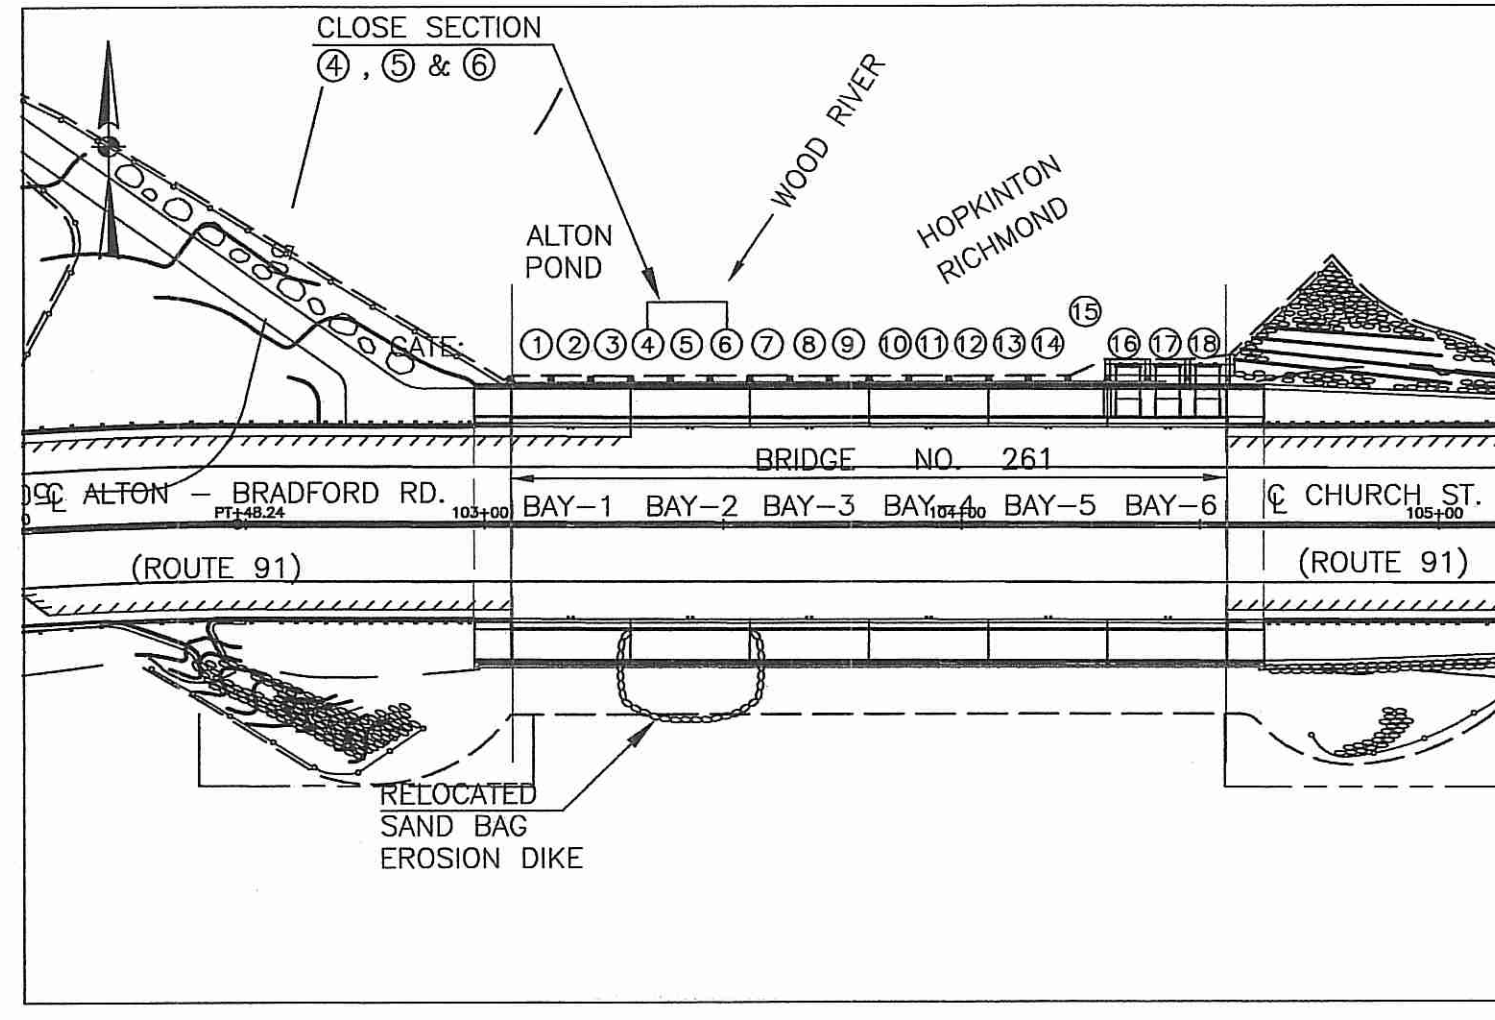
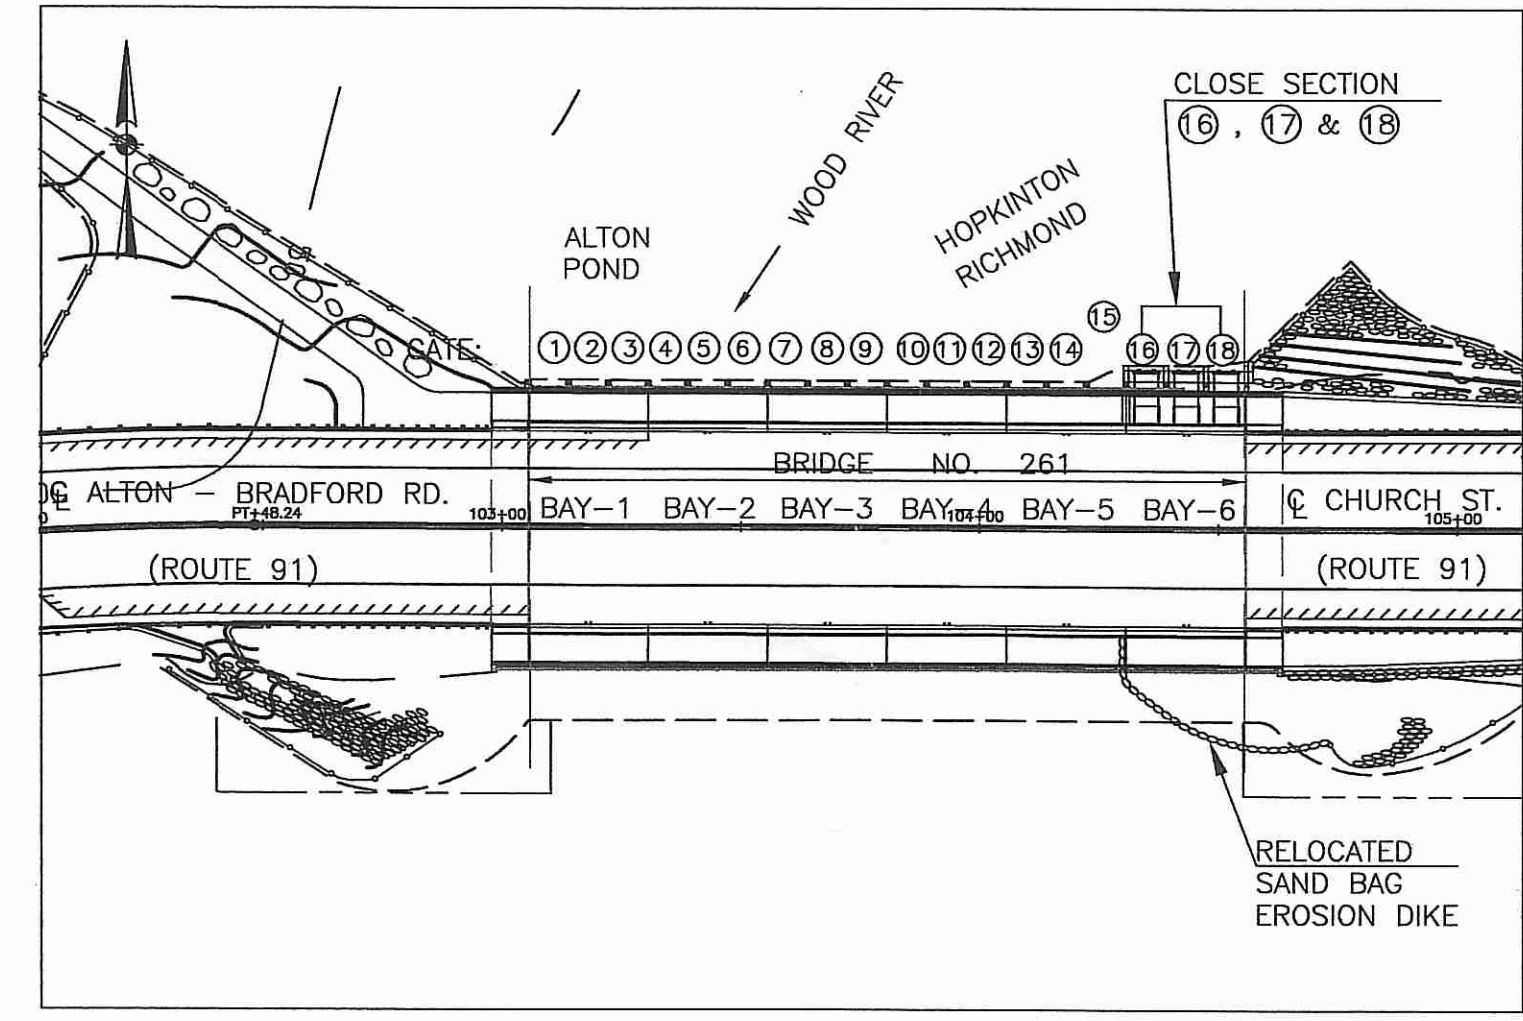

FIGURE 2
FIGURE 6
- REPEAT THE SAME PROCESS FOR REMAINING BAY-2 TO BAY-6 AS SHOWN ON FIGURE 2 THRU FIGURE 6, ONE BAY AT A TIME, REUTILIZING TIMBER CRIBBING AND SANDBAG EROSION DIKE FROM PREVIOUS STAGE.